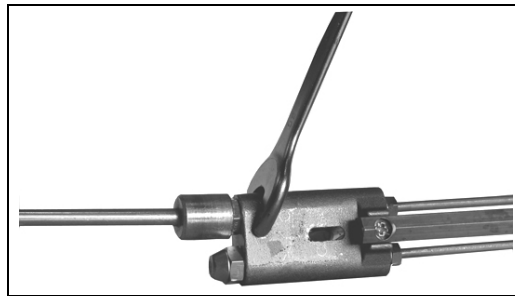

Fig. 53
- Unscrew the nozzles using two wrenches (16 and 24 mm), as shown in Fig. 53.